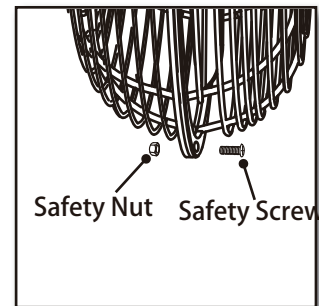

Figure 13
15.Mount the front grill to the rear grill, tighten the grills using the grill locking screw and nut at the bottom of the grill. Figure 13.